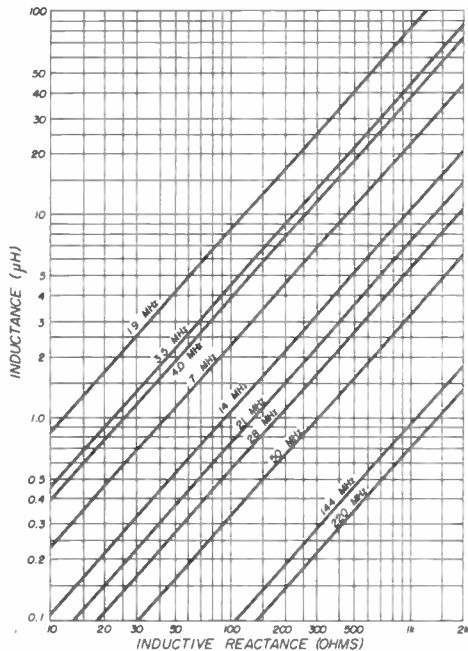

fig. 20. Reactance of inductors commonly used in the amateur bands from 1.9 to 220 MHz.
8. Determine the capacitance and inductance values for the pi network. Fig. 20 and 21 show reactance values of inductors and capacitors commonly used in rf circuits in the hf amateur bands. For the reactances determined for the 3-400Z tubes, the circuit components may easily be determined for each amateur band. In the case of the 20-meter band, for example, the values are: tuning capacitor (C_1) = 100 ohms = 113 pF; loading capacitor (C_2) = 20 ohms = 565 pF; pi network coil (L_1) = 120 ohms = 1.36 μ H.
9. Determine the values of the capacitance and inductance for the components of the pi-L network. Fig. 20 and 21 show reactance values for inductors and capacitors in the range commonly used for rf circuitry in the high-frequency amateur bands. For the reactance values determined for the 3-1000Z tube, the circuit components may be easily determined for each amateur band. In the case of the 80-meter band, for example, the values are: tuning capacitor (C_1) = 150 ohms = 275 pF; loading capacitor (C_2) = 47 ohms = 900 pF; pi network coil (L_1) = 215 ohms = 9 μ H; L network coil (L_2) = 140 ohms = 6.5 μ H.